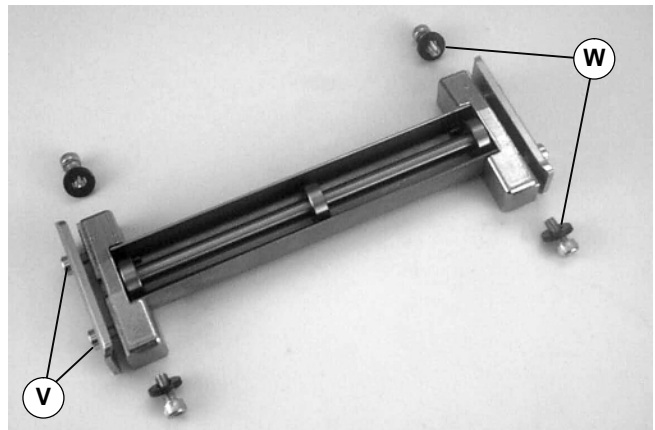

Figure 14
2. Loosen screws (V of Figure 14) and remove screws and washers (W).